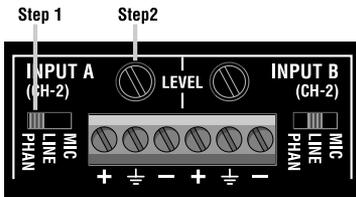

Fig. 3.8 Steps 1 & 2
1. **Set the input mode switch** (Figure 3.8) to the appropriate setting for each input. Input A should be set to “PHAN” for the phantom powered microphone and Input B should be set to “LINE” for the line-level feed.
2. **Set the input level controls** of Inputs A and B for the required system gain (Figure 3.8).